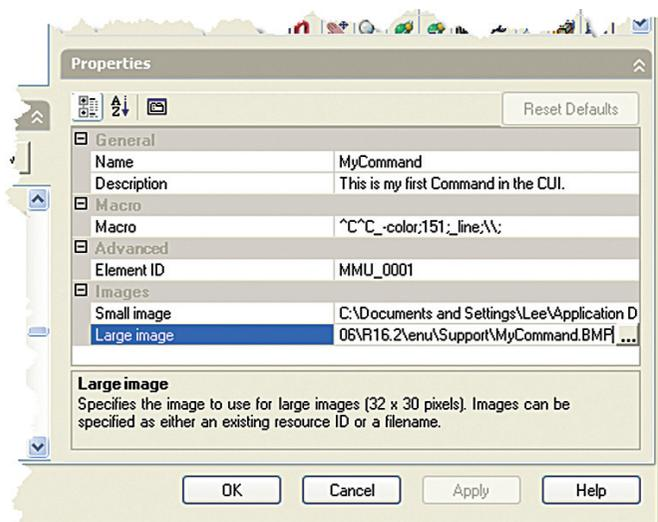

Figure 5
18. Click the Apply button to save the changes of the MyCommand command (see Figure 5).